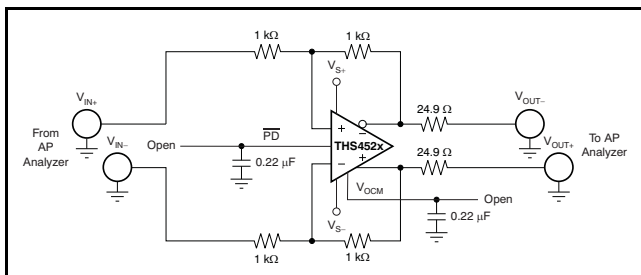
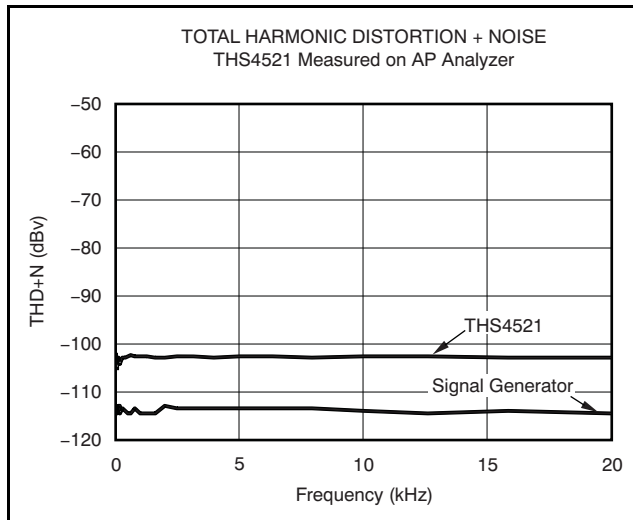
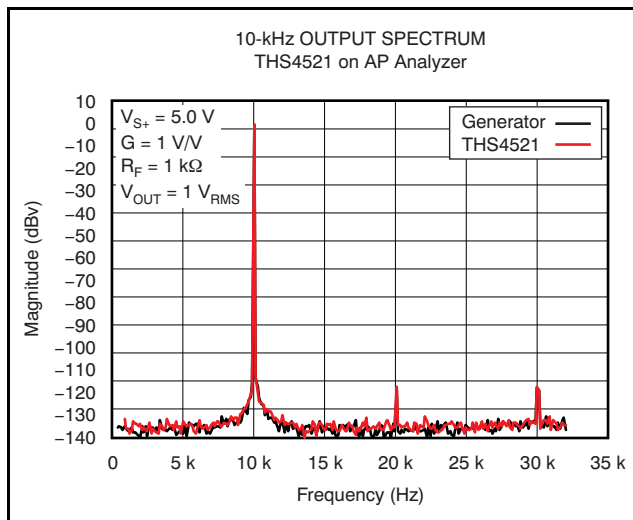

Figure 68. THS4521 AP Analyzer Test Circuit
Figure 69. THS4521 1-V_{RMS} 20-Hz to 20-kHz THD+N
Figure 70. THS4521 1-V_{RMS} 10-kHz FFT Plot
The THS4521, THS4522, and THS4524 family provide excellent audio performance with very low quiescent power. To show performance in the audio band, the device was tested with a SYS-2722 audio analyzer from Audio Precision. THD+N and FFT tests were performed at 1-V_{RMS} output voltage. Performance is the same on both 3.3-V and 5-V supplies. Figure 68 shows the test circuit used; Figure 69 and Figure 70 show the performance of the analyzer using internal loopback mode (generator) together with the THS4521. Note that the harmonic distortion performance is very close to the same with and without the device meaning the THS4521 performance is actually much better than can be directly measured by this method. Using these measurements and simulation, we estimate the second-order harmonic distortion to be -133 dBc and the third-order harmonic distortion to be -140 dBc at 10 kHz. Note that the circuit of Figure 68 is also used to measure crosstalk between channels on the THS4522 and THS4524 using the crosstalk meter function of the AP audio analyzer.
- Added sentence regarding use of Figure 68 to measure crosstalk between channels of THS4522 and THS4524 to *Audio Performance* section 29